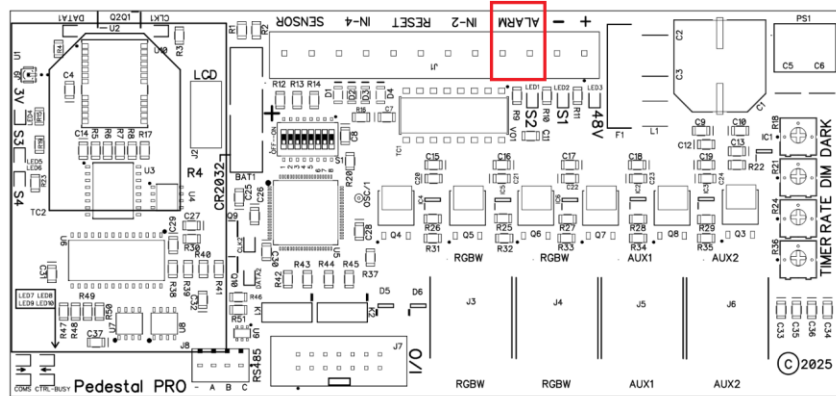

Figure 9 Control board layout showing the location of the +/- ALARM ports on the terminal block.
- Locate the red and black leads connected to the +/- ALARM ports on the terminal block on the BLH control board and connect them to their proper ports on the intercom (see Figure 9).